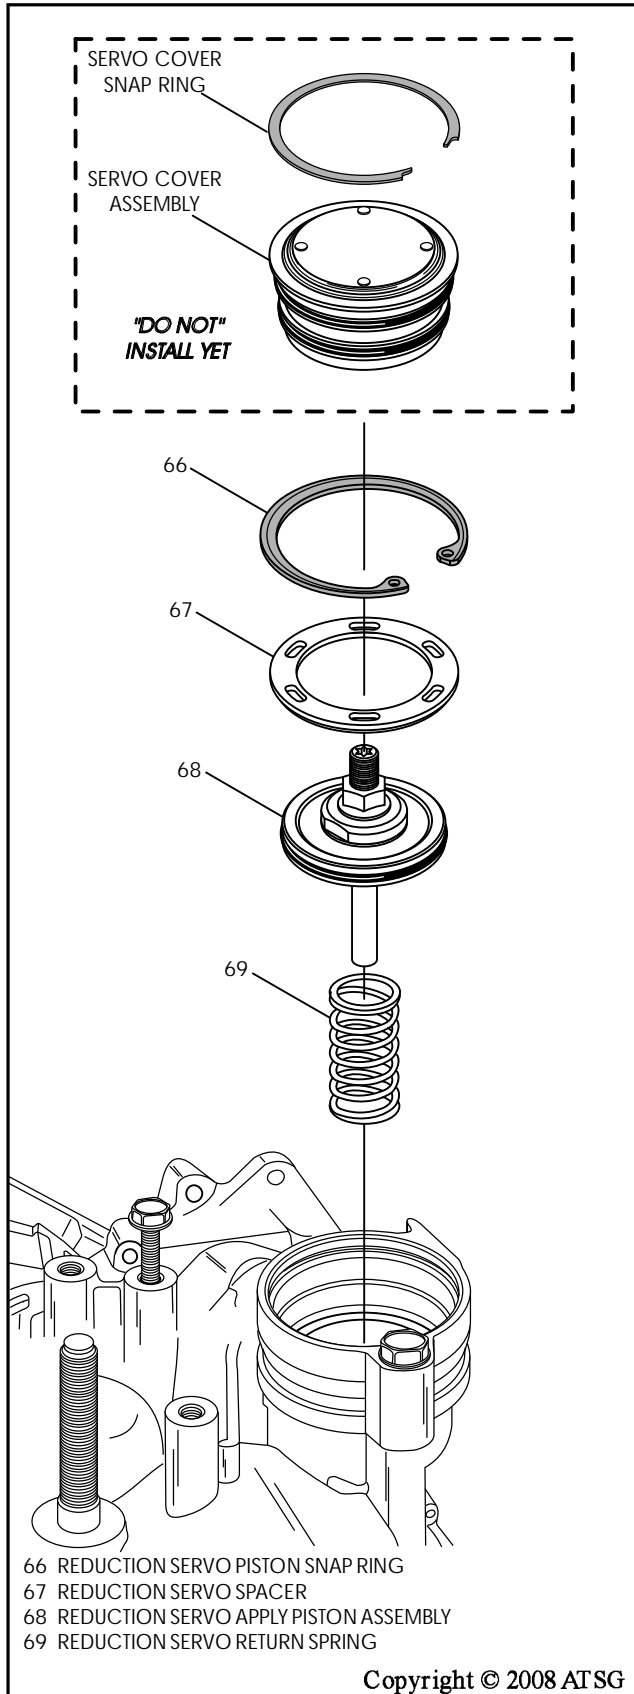

Figure 85
46. Install the reduction servo piston return spring into case bore, as shown in Figure 85.
47. Install the reduction servo piston assembly into case bore, as shown in Figure 85.
48. Install the reduction servo spacer on top of the piston, as shown in Figure 85.